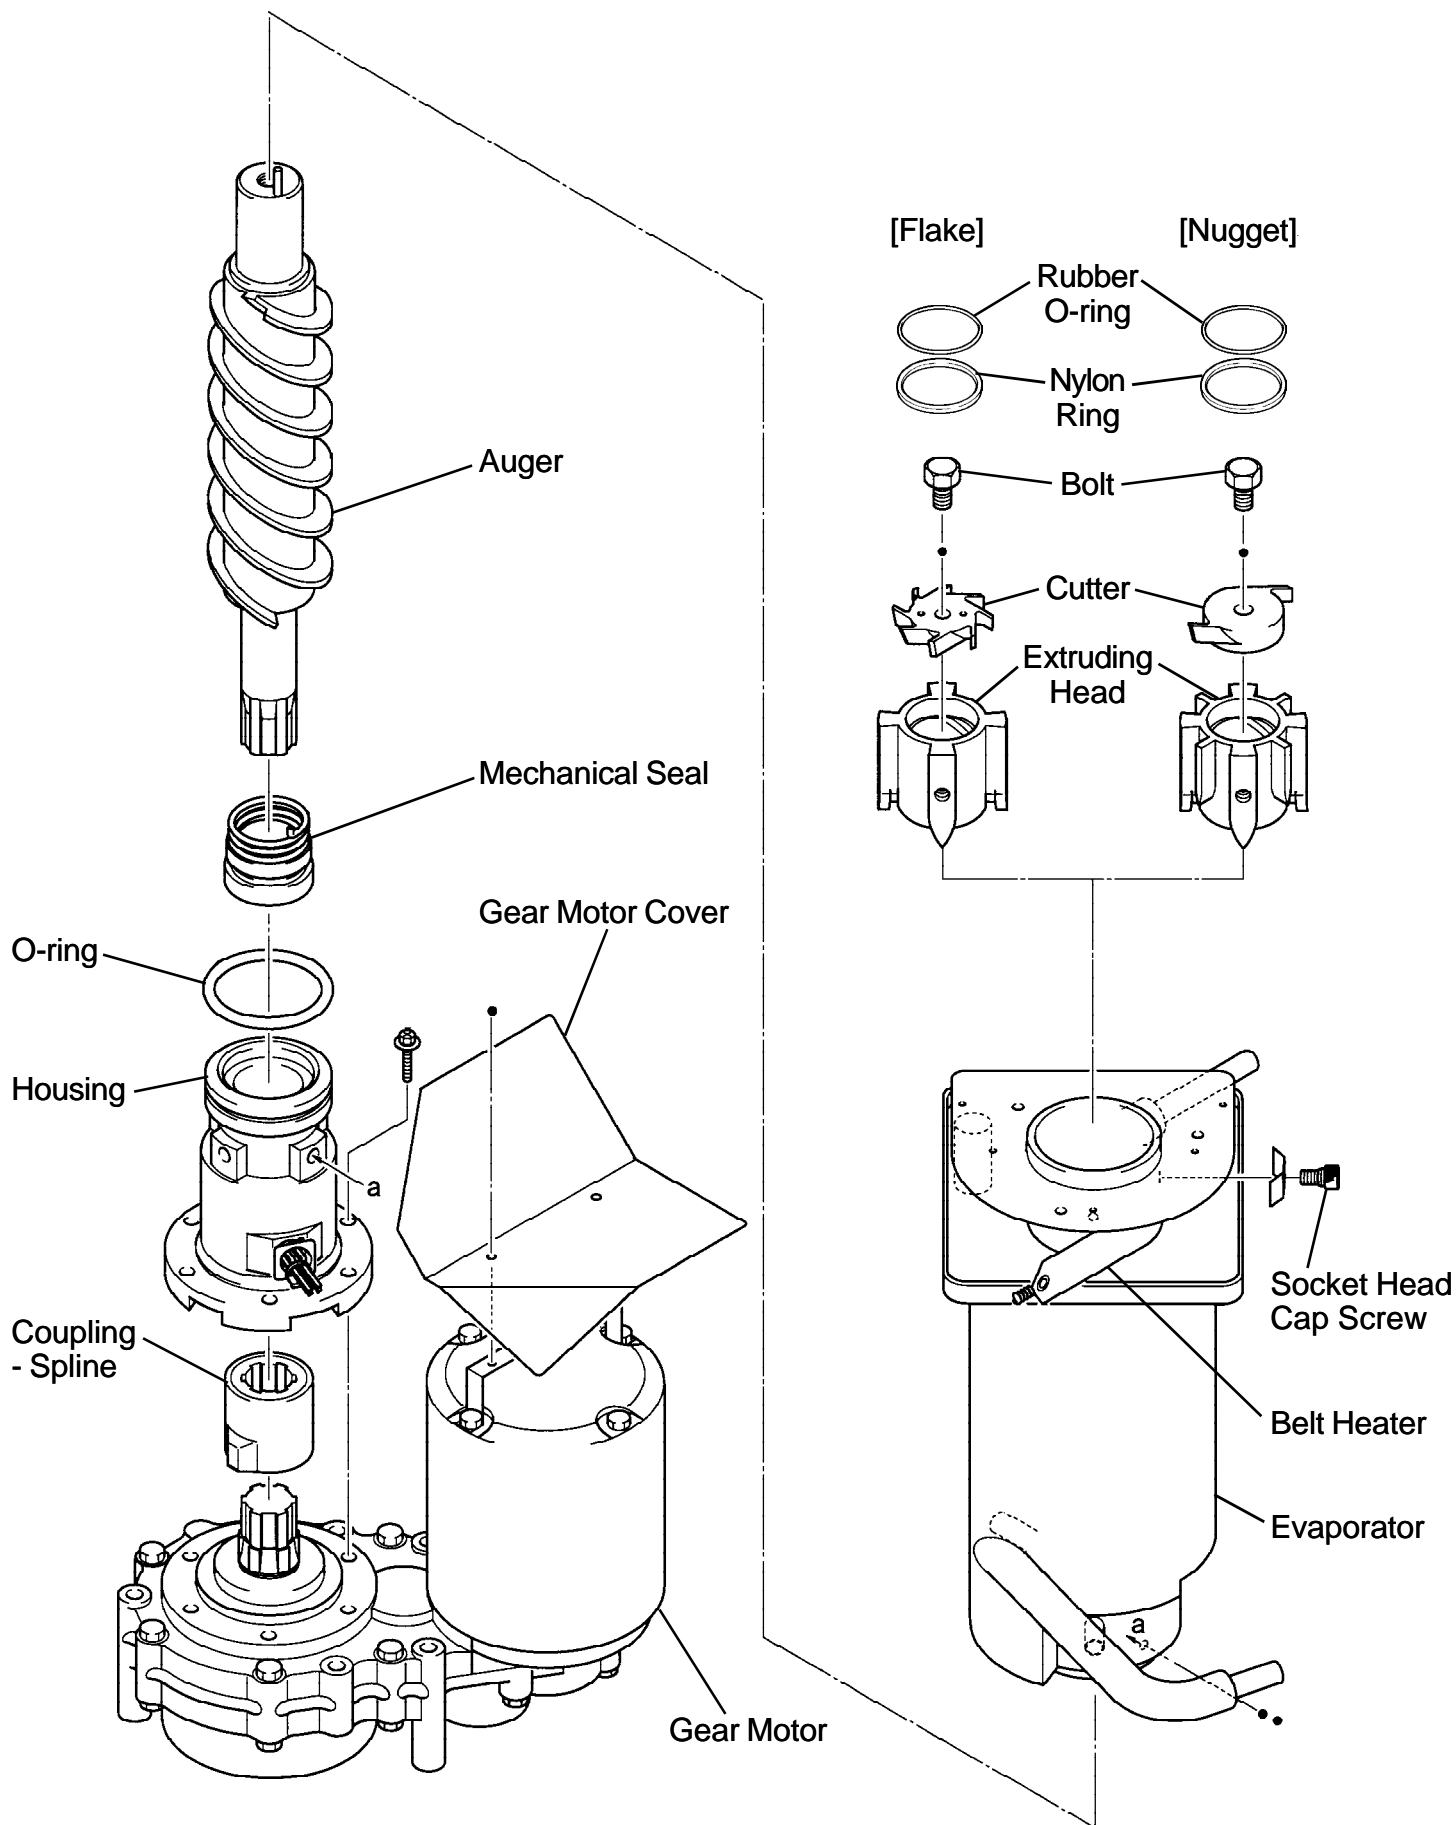

Fig. 14
7. EVAPORATOR ASSEMBLY - See Fig. 14